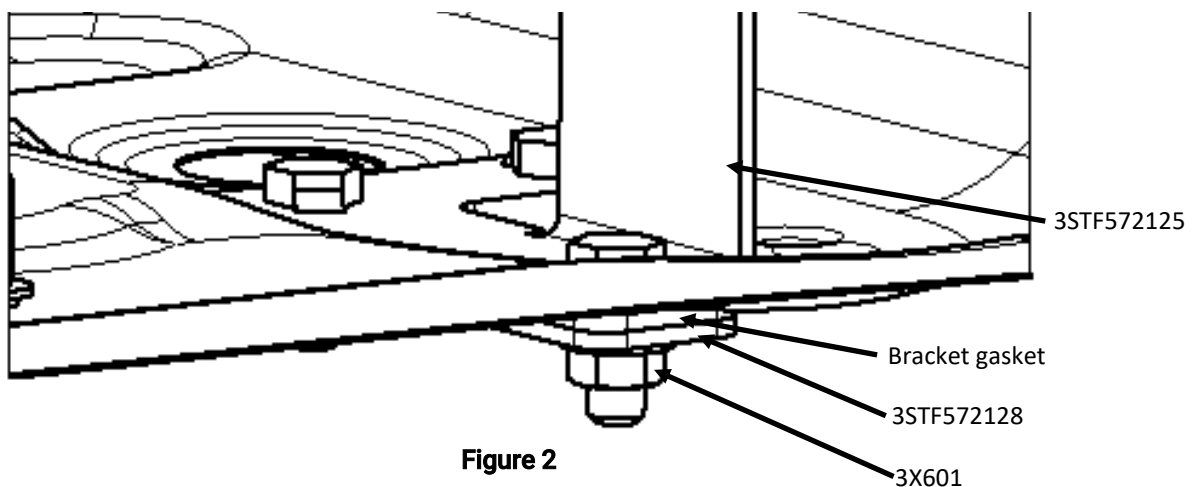

Figure 2
1. Locate Rear Driver Side Bracket [3STF572125], Rear Passenger Side Bracket [3STF572124], (2) bracket gaskets, (2) Rear Bracket Sandwich Plates [3STF572128], and (6) [3X601] 3/8-16 serrated flange hex nuts.
2. Place Rear Driver Side Bracket through the mounting holes in floor. From the underside of vehicle place bracket gasket, then Rear Bracket Sandwich Plate up onto bolts. Secure with serrated flange hex nuts as shown in Figure 2.